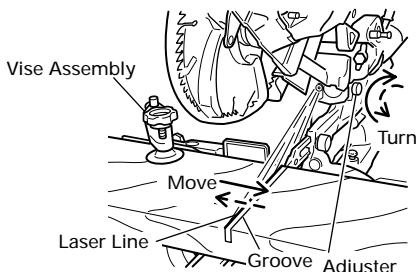

Fig. 20
(1) Light up the laser marker and make a groove of about  $3/16"$  (5mm) deep on the workpiece that is about  $25/32"$  (20mm) in height and  $5-29/32"(150mm)$  in width. Hold the grooved workpiece by vise as it is and do not move it. For grooving work, refer to "11.Groove cutting procedures" on page 25.
(2) Then, turn the adjuster and shift the laser line. (If you turn the adjuster clockwise, the laser line will shift to the right and if you turn it counterclockwise, the laser line will shift to the left.) When you work with the ink line aligned with the left side of the saw blade, align the laser line with the left end of the groove. (Fig. 20) When you align it with the right side of the saw blade, align the laser line with the right side of the groove.
(3) After adjusting the position of the laser line, draw a right-angle ink line on the workpiece and align the ink line with the laser line. When aligning the ink line, slide the workpiece little by little and secure it by vise at a position where the laser line overlaps with the ink line. Work on the grooving again and check the position of the laser line. If you wish to change the laser line's position, make adjustments again following the steps from (1) to (3).